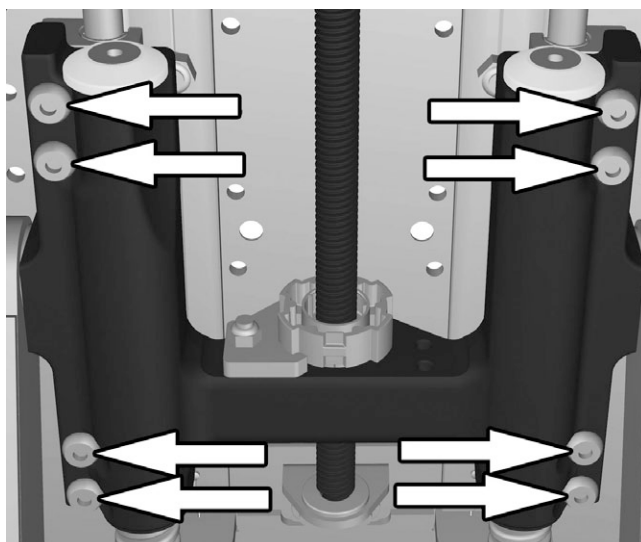

Figure 127. Assemble the sleigh with the eight screws.
4. Position the front end of the axle in the axle bearing and make sure the rear end of the actuator fits in its bracket. Assemble the sleigh with the eight screws. See fig. 127.